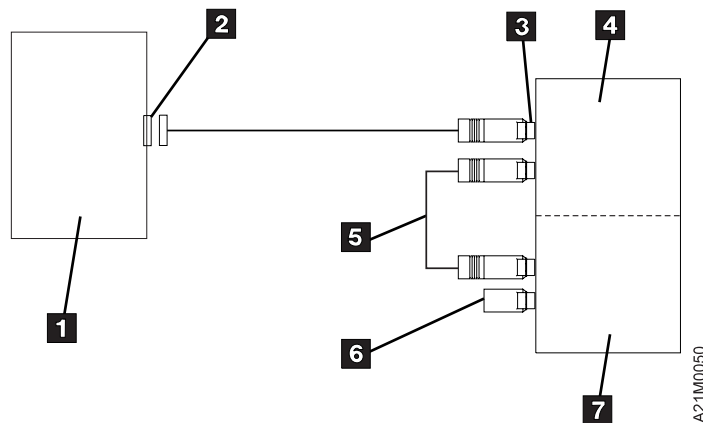
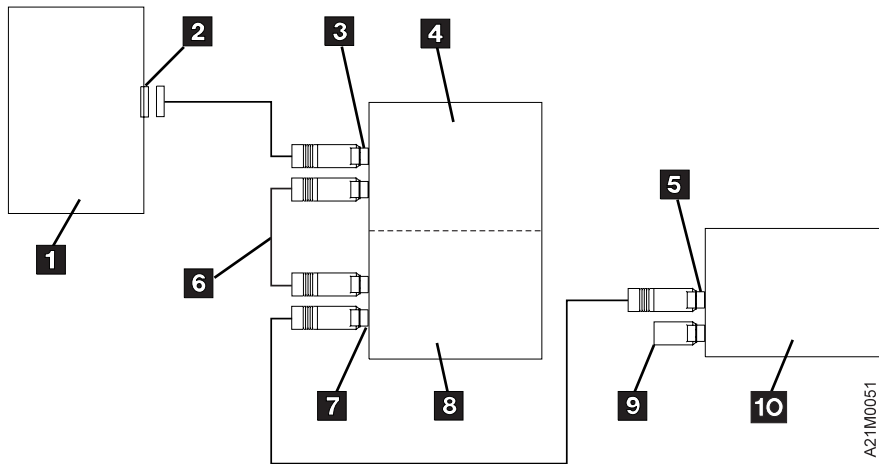

Figure 56. Example of Attaching One SCSI Device to the Host (Initiator)
Figure 57. Example of Attaching Multiple SCSI Devices to a Host (Initiator)
7. If a SCSI bus jumper is installed, remove it. See item 5 in Figure 57 on page 116 .
Figure 56 shows an example of a single 3570 Model C22 in Base Configuration attached to the host (initiator). Figure 57 on page 116 shows an example of a single 3570 Model C22 in Base Configuration attached to the host (initiator) with multiple other SCSI devices.